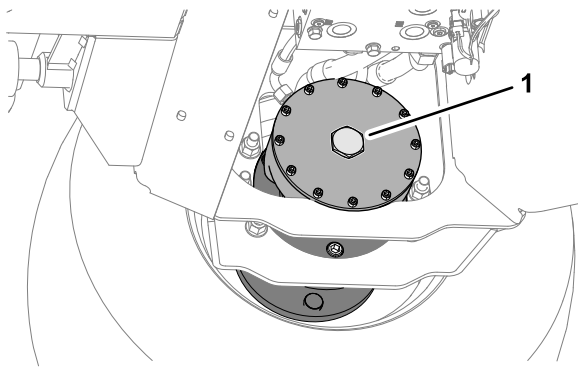

Figure 41
2. Install the hex plug into the motor end plate (Figure 41).
6. Stow the 2 bolts 12 x 40 mm and 2 washers 12 mm stored in the platform support rails (Figure 41).